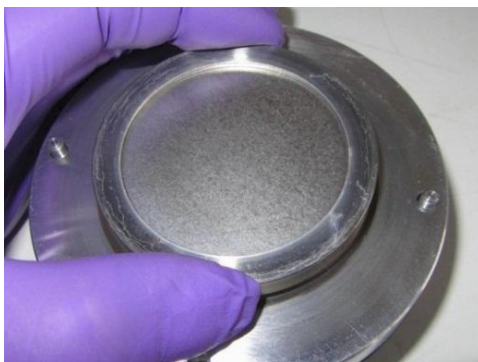

Figure 2. Inserting the sputter target.
4. Remove the bayonet ring by turning and insert the sputter target as shown in Figure 2, below.